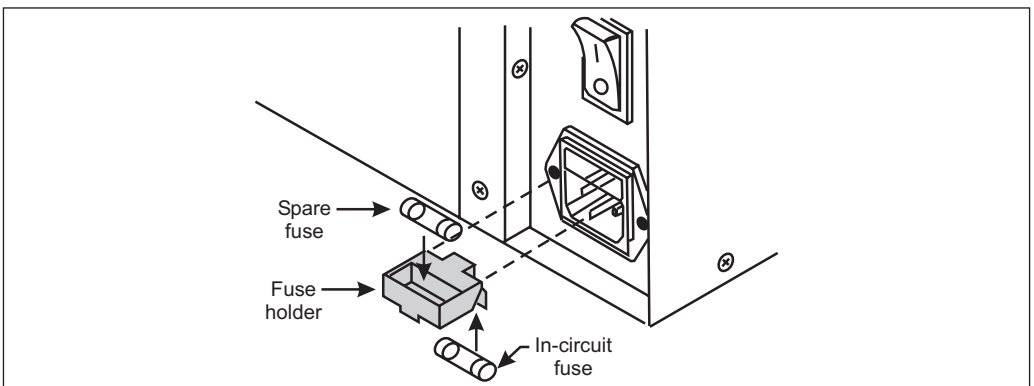

Figure 29
3. Remove the faulty fuse and install a new fuse of the correct type. Refer to Figure 29. The fuse that goes into the printer first is the one that is “in-circuit.” If you use the spare fuse, be sure to order a replacement fuse (fuses can be ordered from your Zebra distributor).